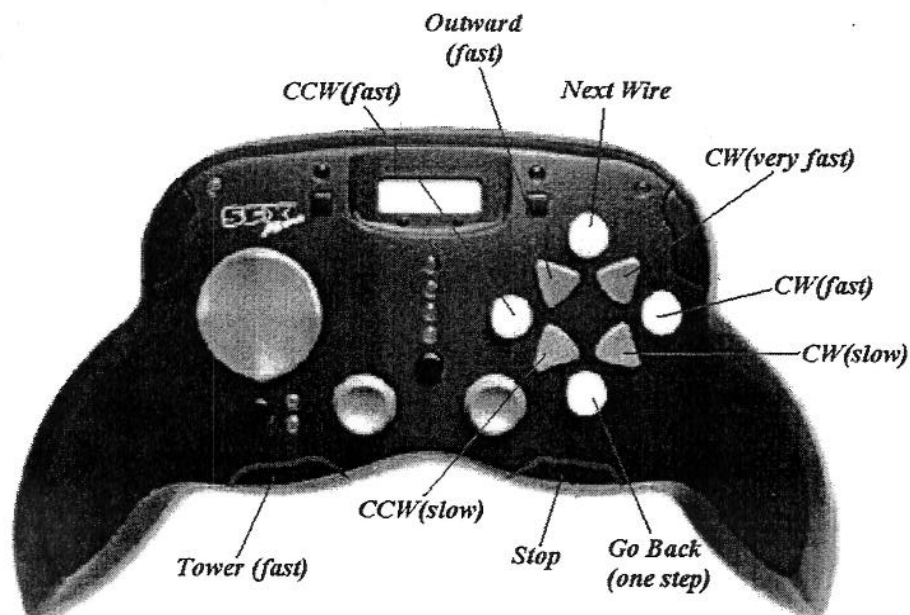

Figure 7 (Joypad)
- 7.8. Once the maximum signal is indicated, check that the puffer outlet head (figure 7) is aimed directly at the wire, and move the sensor toward the tower by approximately one centimeter, (this is one click of the "Go Back" button).